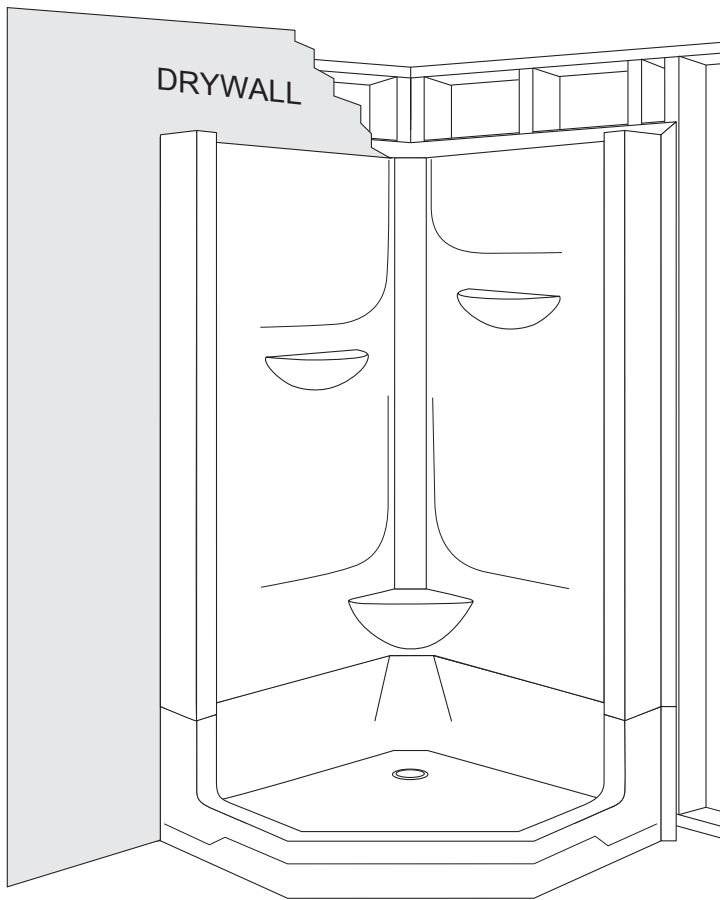

FIGURE 5
9. Wall finish should cover the fastening flange. The seam between the unit and the wall finish should be sealed with silicone. **(Figure 5)**